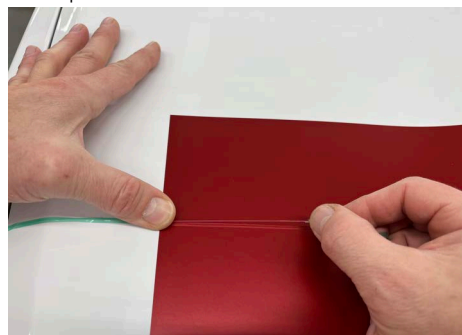

Figure 5.
7. Fold the filament over the graphic. Press your thumb over both the filament and the graphic edge as shown in Figure 5.